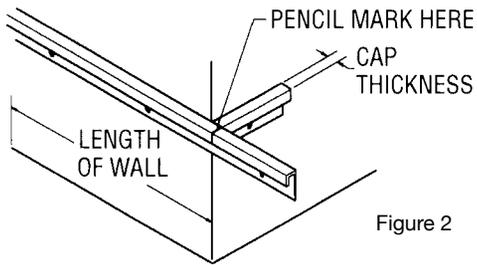

Figure 2
1. Measure the length of the wall; then add the width of cap thickness, and make a mark (see figure 2).